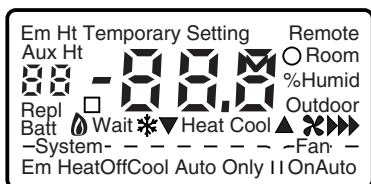

Fig. 11. Display of all the segments of the LCD.
- To enter the Installer Setup mode, press and hold the Information **[i]** key with the increase **▲** and decrease **▼** keys until the first mode number is displayed. All display segments appear for approximately three seconds before the mode number is displayed. See Figs. 11 and 12.